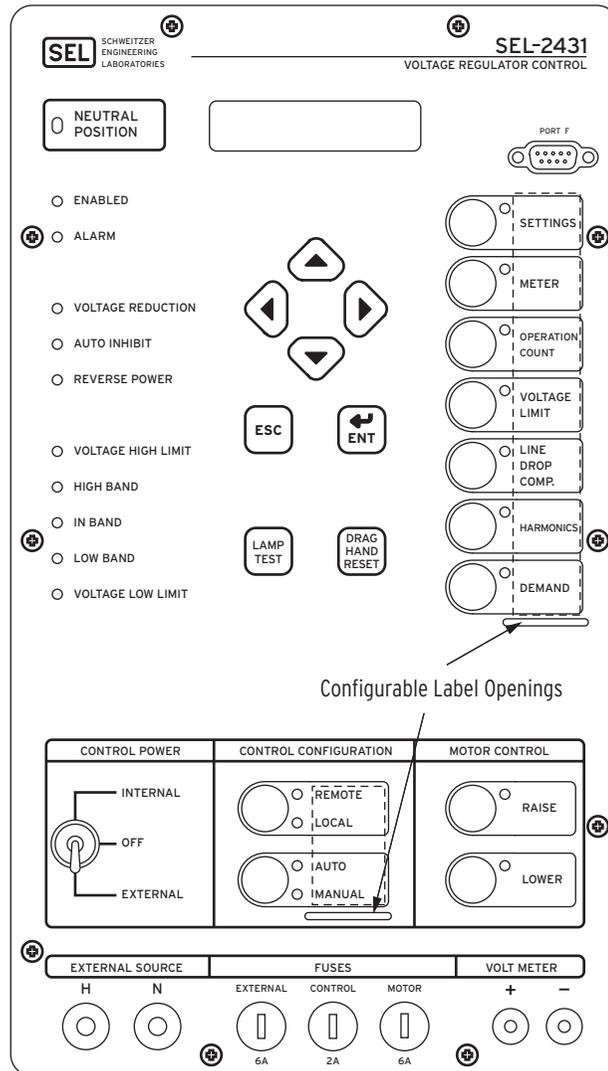

Figure 1 SEL-2431 Configurable Label Areas With Factory Default Labels
The SEL-2431 Configurable Labels Kit provides the materials and information needed to customize the front panel. *Figure 1* shows the location of the pocket areas and openings.
- Step 2. Slide the tip of the tool under the label at the label pocket opening (see *Figure 1* for opening locations).